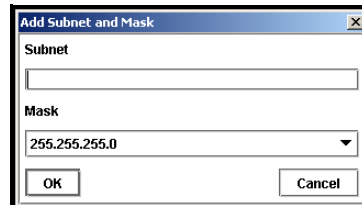

Figure 196. Adding a Subnet and Mask for EBSD Host Authentication
2. Click Add. The Add Subnet and Mask window opens, shown in Figure 196.